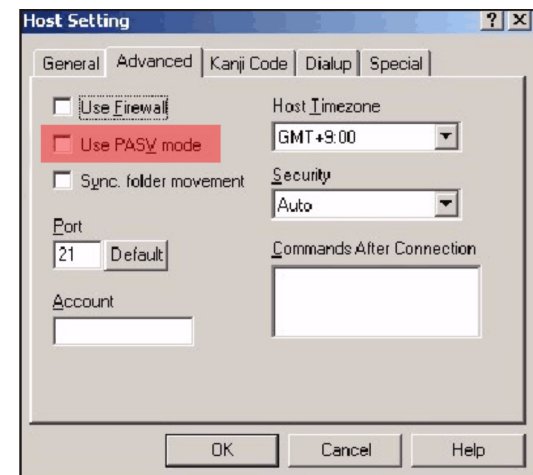

Figure 3-43 Host Setting-Advanced Tab
- Under the **Advanced** tab, ensure the selection to **Use PASV mode** is unchecked (**Figure 3-43**).